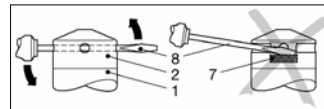

Fig. 2: Removal of protective cap
2. Hold the probe with one hand on the probe section (Fig. 2 – 1).
3. Pull off the protective cap (Fig. 2 – 2) with the other hand.
2. Slide a thin tool (Fig. 2 – 8), e.g. a screwdriver, through two opposite bores of the protective cap (Fig. 2 – 2).
**NOTE** – Do not damage the measuring cell (Fig. 2 – 7) under the protective cap!